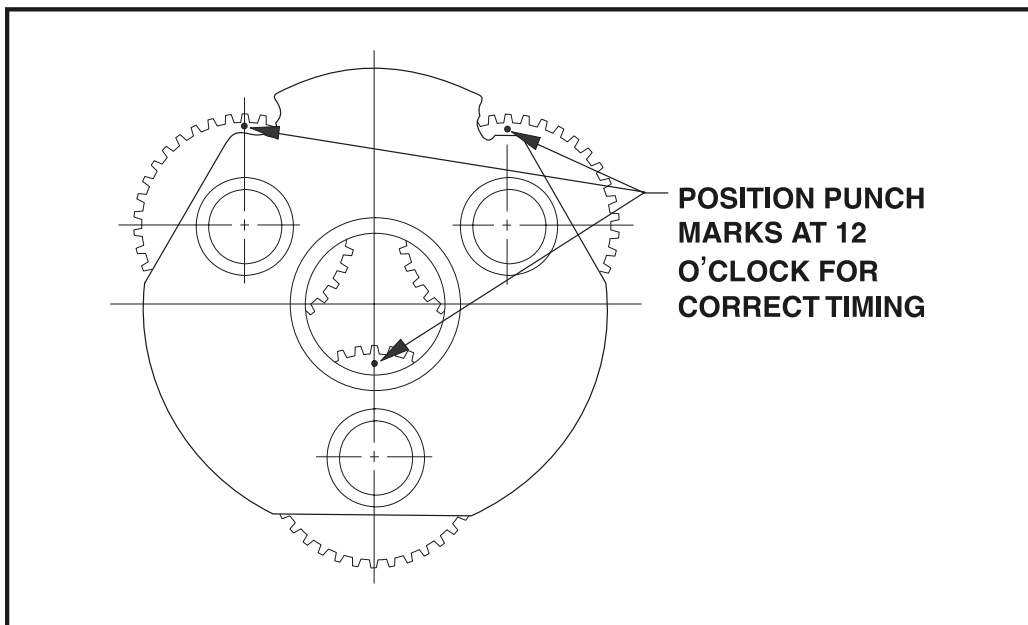

Figure 2-8. Torque Hub Carrier Timing
12. Set carrier assembly on work surface so that large ends of cluster gears face up. Locate punch marks on face of each cluster gear and position them at 12 o'clock. Refer to Figure 2-8., Torque Hub Carrier Timing